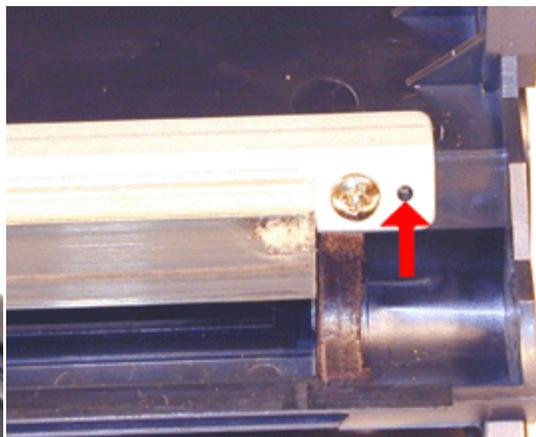

FIGURE 29
24. Install the cleaned doctor blade and two screws. Be careful not to damage the alignment pins. See Figure 29